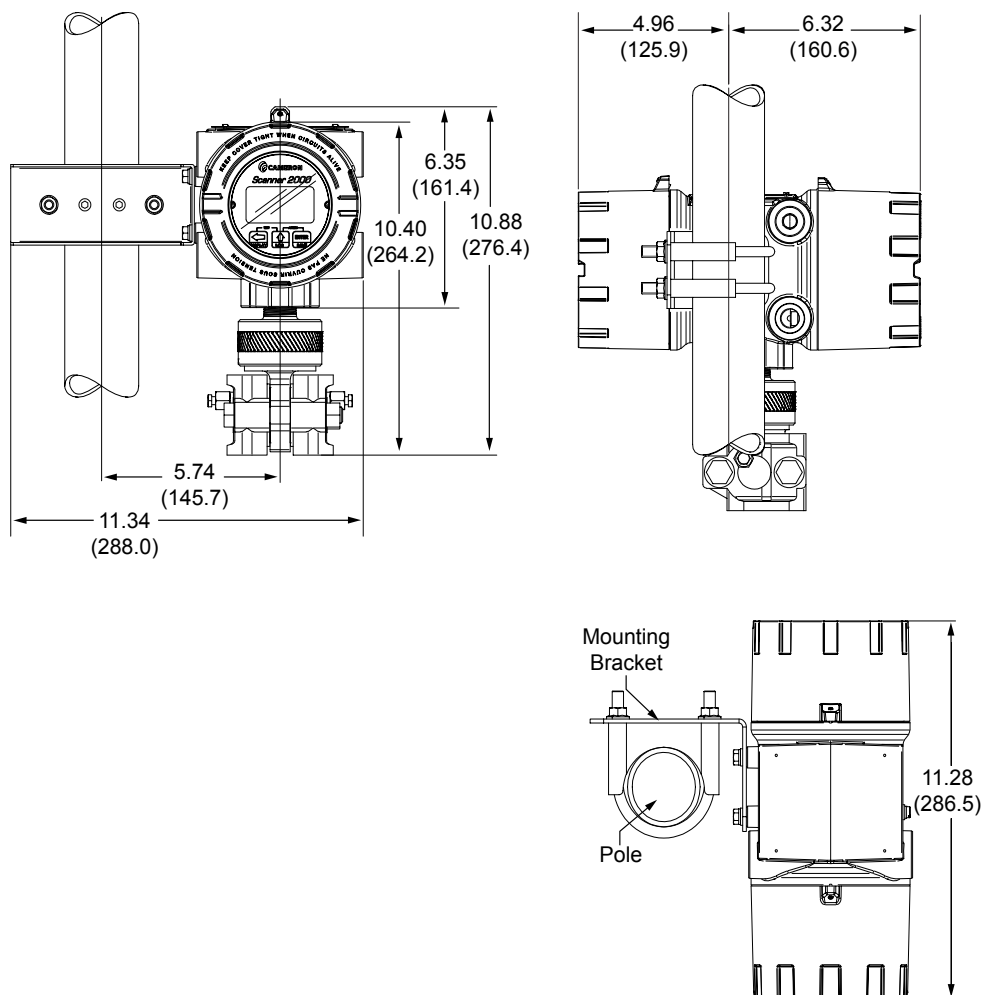

Figure 2.3—Scanner 2100 with MVT, remote-mounted on a 2-in. pole using a Cameron hardware kit; dimensions are shown in inches (mm)
- **Pole-mount** (Figure 2.3, page 30). The instrument can be mounted on a 2-in. pole using the mounting bosses on the side of the enclosure and a Cameron pole mount kit. Tubing is used to connect the integral MVT to the orifice meter or cone meter.
Cameron's pole-mount kit is recommended for mounting any Scanner 2100 configuration to a 2-in. pole (Figure 2.3). The kit consists of a stainless steel "L" mounting bracket with four mounting holes, two U-bolts, and four 10-mm M6 screws.